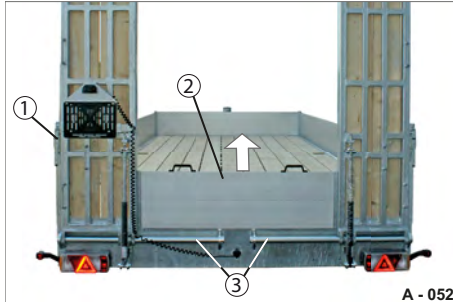

Fig. 77 Unlocking the drive-up ramps
- If necessary, remove the slot-in gate (Fig. 77/2).
- Check that the track width guide linkages (Fig. 77/3) are free of dirt - if necessary, clean and apply a little grease beforehand.
- Unlock the ramp retainer (Fig. 77/1).